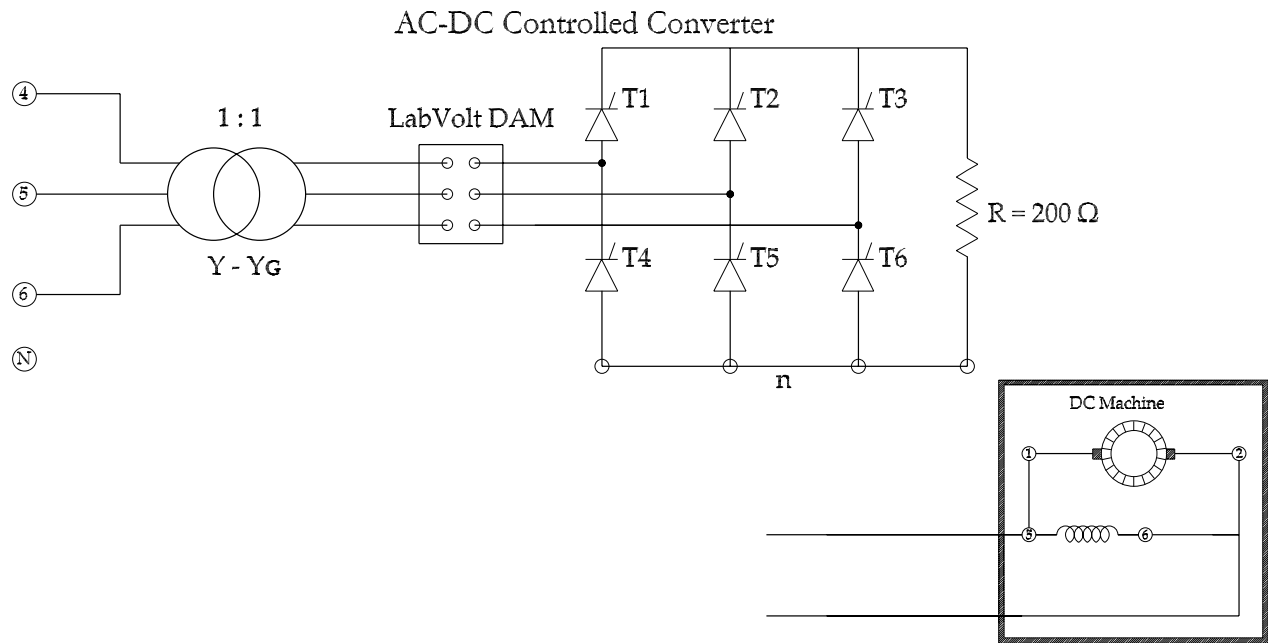

Figure 2: The 3ϕ full-wave rectifier and both load types.
- STEP 1: Construct the circuit shown in Figure 2.